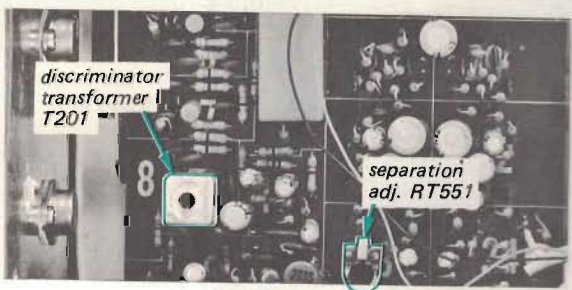
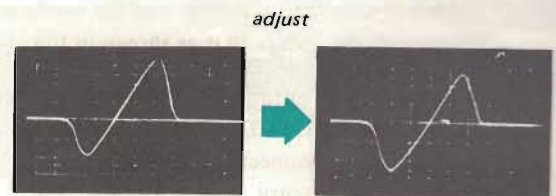
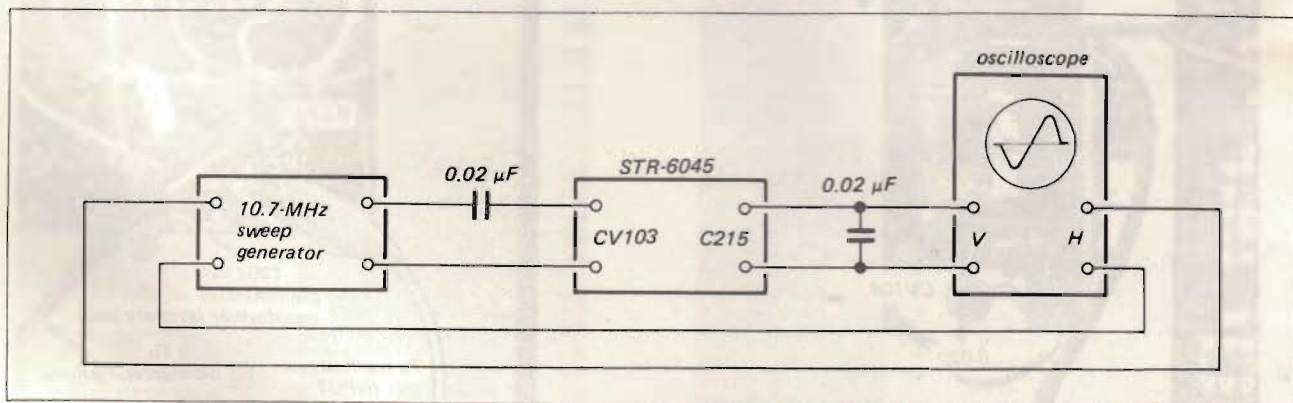

Fig. 3-5 Parts location
Fig. 3-7 "S" curve response
Fig. 3-6 Test setup for discriminator alignment by sweep generator
1. With the equipment connected as shown in Fig. 3-6, set the sweep generator's controls as follows:
- FUNCTION switch (1) . . . FUNCTION (2)
- FUNCTION switch (2) . . . FM AUTO STEREO
4. Turn the top core (secondary side) of discriminator transformer T201 (See Fig. 3-5) with an alignment tool to obtain the "S" curve response, and equalize the positive and negative peaks of the "S" curve response, as shown in Fig. 3-7.